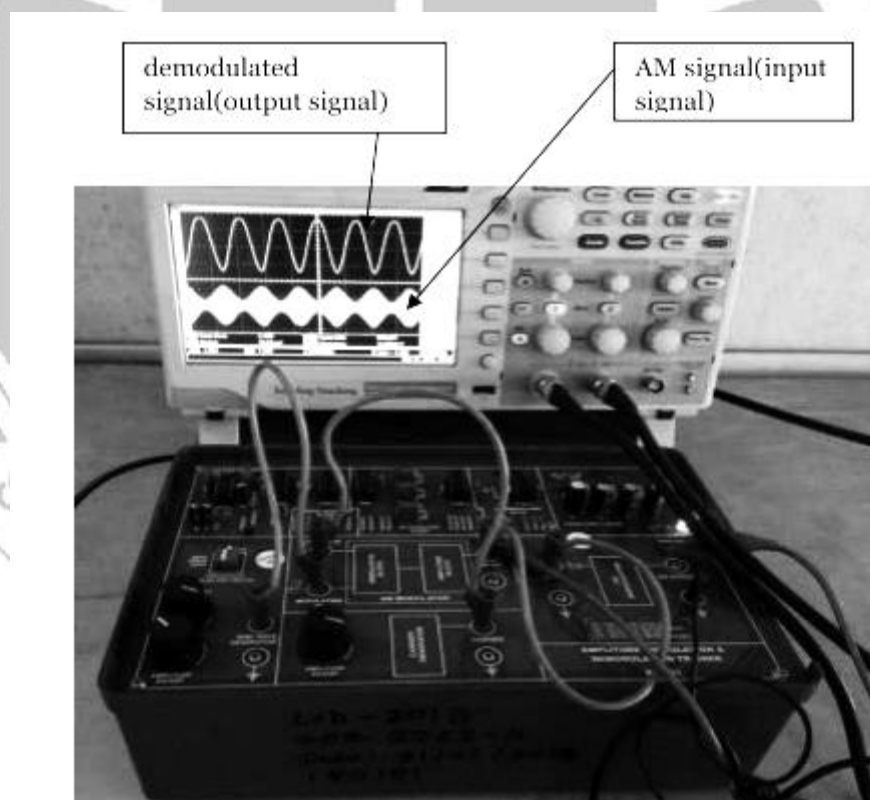

Fig 5.4:AM Demodulation
1. Connections are made on AM modulator and demodulator kit as shown in fig 5.4